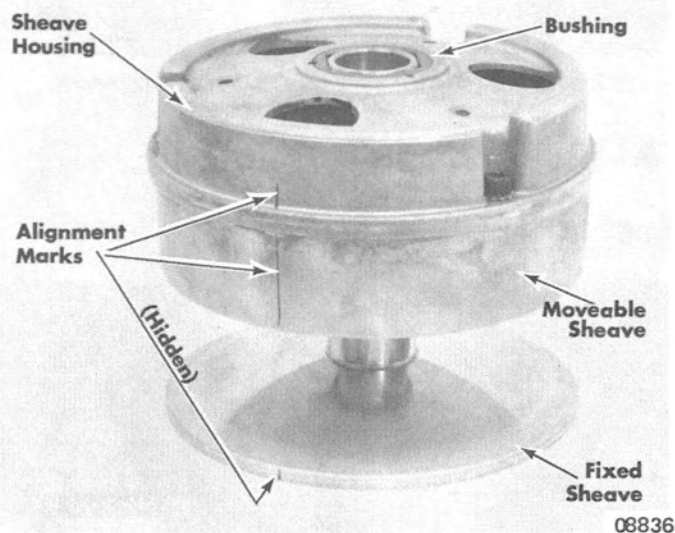

Figure 13. Twister Drive Sheave
2. Slide movable sheave onto fixed sheave hex shaft. Alignment marks on both sheaves must line up to keep the clutch balanced. (Figure 13)
8. Match alignment marks (straight line cast into housings) on sheave housing and movable sheave. (Figure 13) Install sheave housing and secure with 3 lockwashers and allen screws. Torque screws to specifications (Section 8).